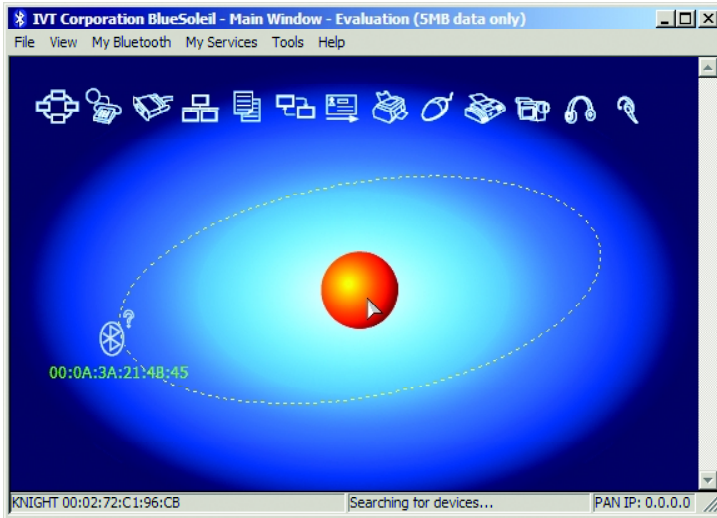

Figure 5 : shows the searching the bluetooth device and display their address first follows the name of them.
4. Search the device by clicking on the orange ball. After seaching, the devices are listed with their address as shown in the figure 5. The ZX-BLUETOOTH device name is "**BT GPS**"